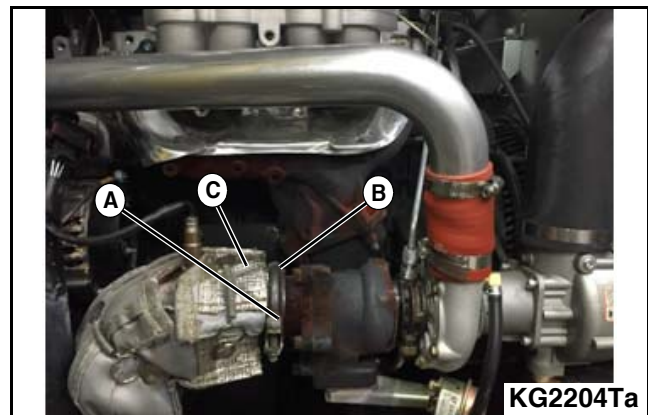

Figure 3-47
6. Remove the bolt (A) on the v-band clamp on the turbocharger outlet adapter. Remove the clamp (B) and then remove the exhaust pipe (C) from the turbocharger outlet adapter. **See Figure 3-47.**